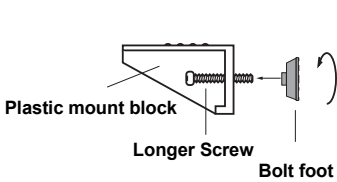

Fig. 1
3. Rotating the longer screw and set it to the hole of the plastic mount block. Firmly attach the bolt foot rotating to the top of the screw. (See Fig. 1)